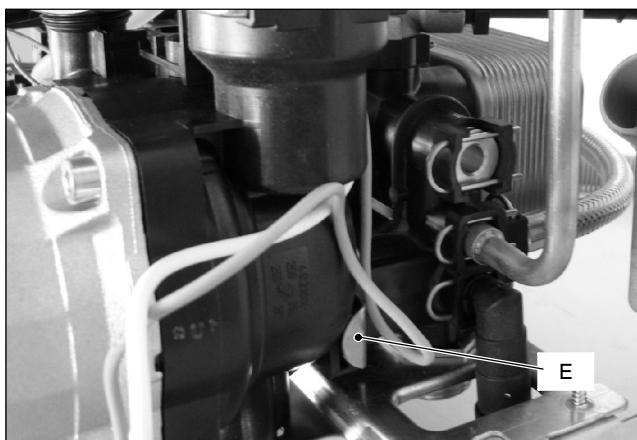

Fig. 20
With the boiler off, remove the front panel and disconnect the connector *B* (Fig. 20).
- 6 Remove the locking plate *E* (Fig. 20).